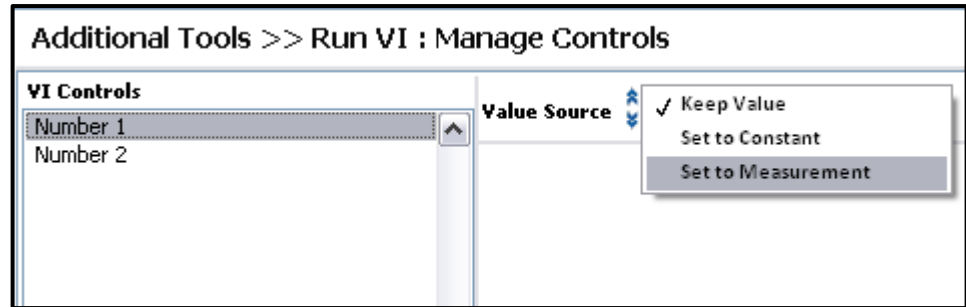

Figure 107. Set input to Constant or Measurement.
- In the following screen, configure the VI inputs to Constants or Measurements [Figure 107]. Click Next when the inputs are properly set.